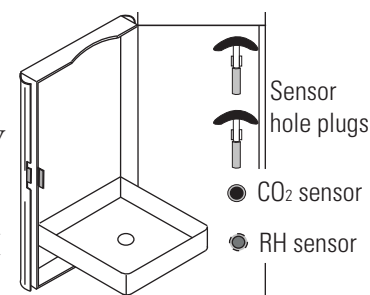

Figure 8-2. Hole Plugs and Sensors
5. Remove the RH and CO₂ sensors. To access the sensors, open the access door containing the humidity system water bottle. (The illustration shows the bottle removed for clarity). Locate the RH and CO₂ sensors (Figure 8-2).